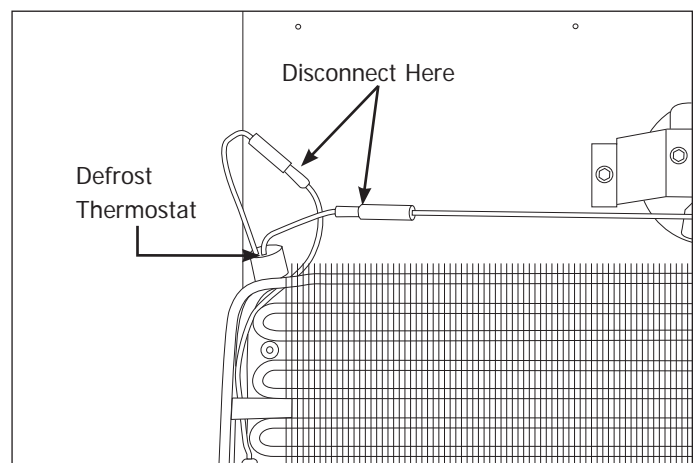

Figure 5-47. Defrost Thermostat Removal
5. Disconnect the defrost thermostat wire leads from the wire harness. (See Figure 5-47)